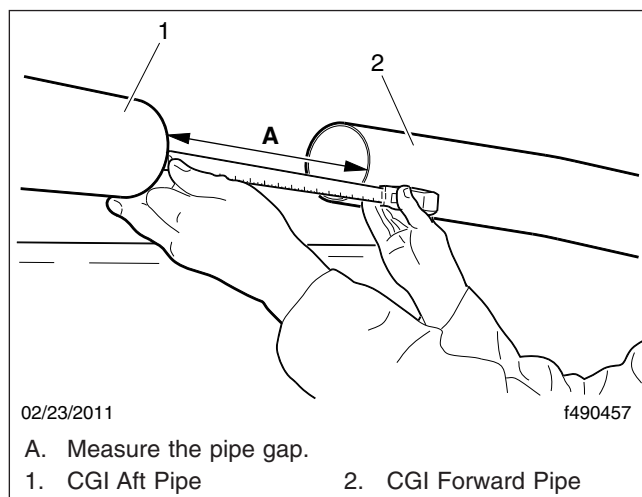

Fig. 10, Measuring the Pipe Gap (typical)
7. Once the pipes are aligned, measure the pipe gap between the CGI pipes and record the distance. See **Fig. 10**, Ref. A.